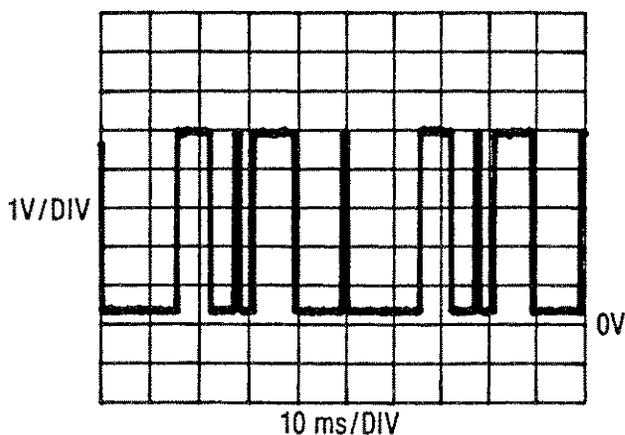

Figure 8-40. Ramp End Waveform
4. Connect an oscilloscope to A5TP4 (Comp out) and compare the displayed waveform with Figure 8-40.